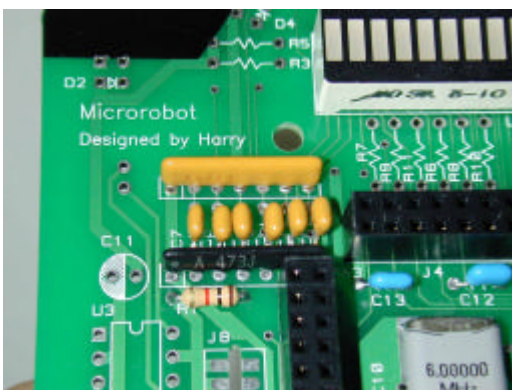

Fig 2.13
### **(21)~(24) Refer to Fig 2.13**